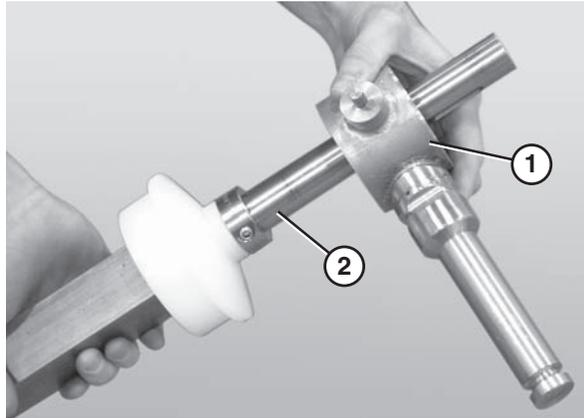

Figure 82
7. Slide the second bearing shaft assembly, or the motor mount bracket (**Figure 82, item 1**), onto the longer end of the drive spindle (**Figure 82, item 2**).